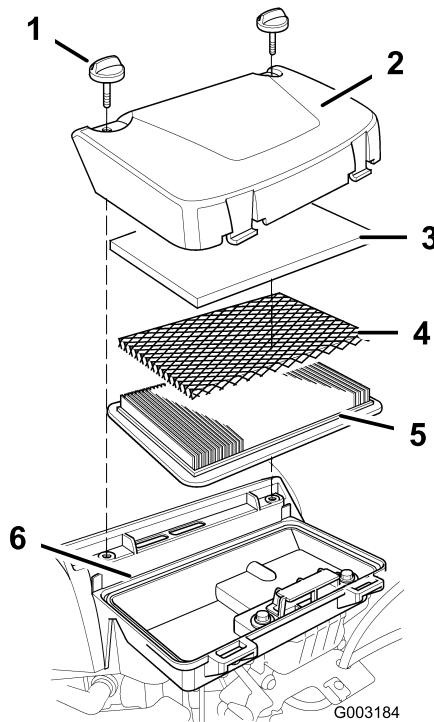

Figure 21
4. Remove the air cleaner cover knobs and the air cleaner cover. Be careful to prevent debris from falling into the air cleaner base opening (Figure 21).
5. Remove the foam filter element (Figure 21).
6. Remove the paper filter element from the grid (Figure 21).
1. Install the grid over the paper element and install the assembly into the air cleaner base (Figure 21).
2. Install the foam element over the grid (Figure 21). The grid must be placed between the foam element and paper element to prevent oil from contaminating the paper element.
3. Install the air cleaner cover over the filter. Use the cover knobs to secure the cover in place (Figure 21).